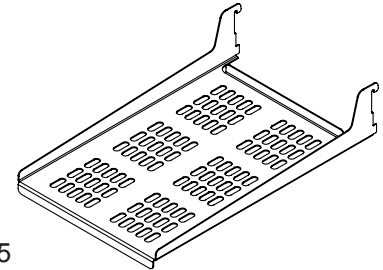

Figure 15
(2) perforated stainless steel slide out shelves. (See Figure 15).